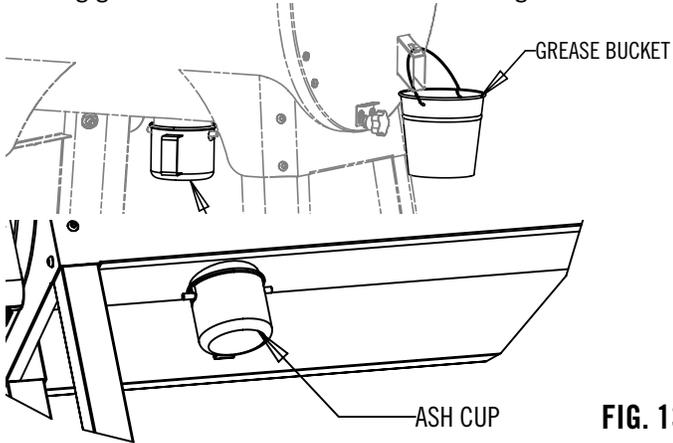

FIG. 13
1. Hang grease bucket from tube as shown in Fig 13.
1. Install Ash Cup as shown in Fig 13. Never use grill without Ash Cup in place.